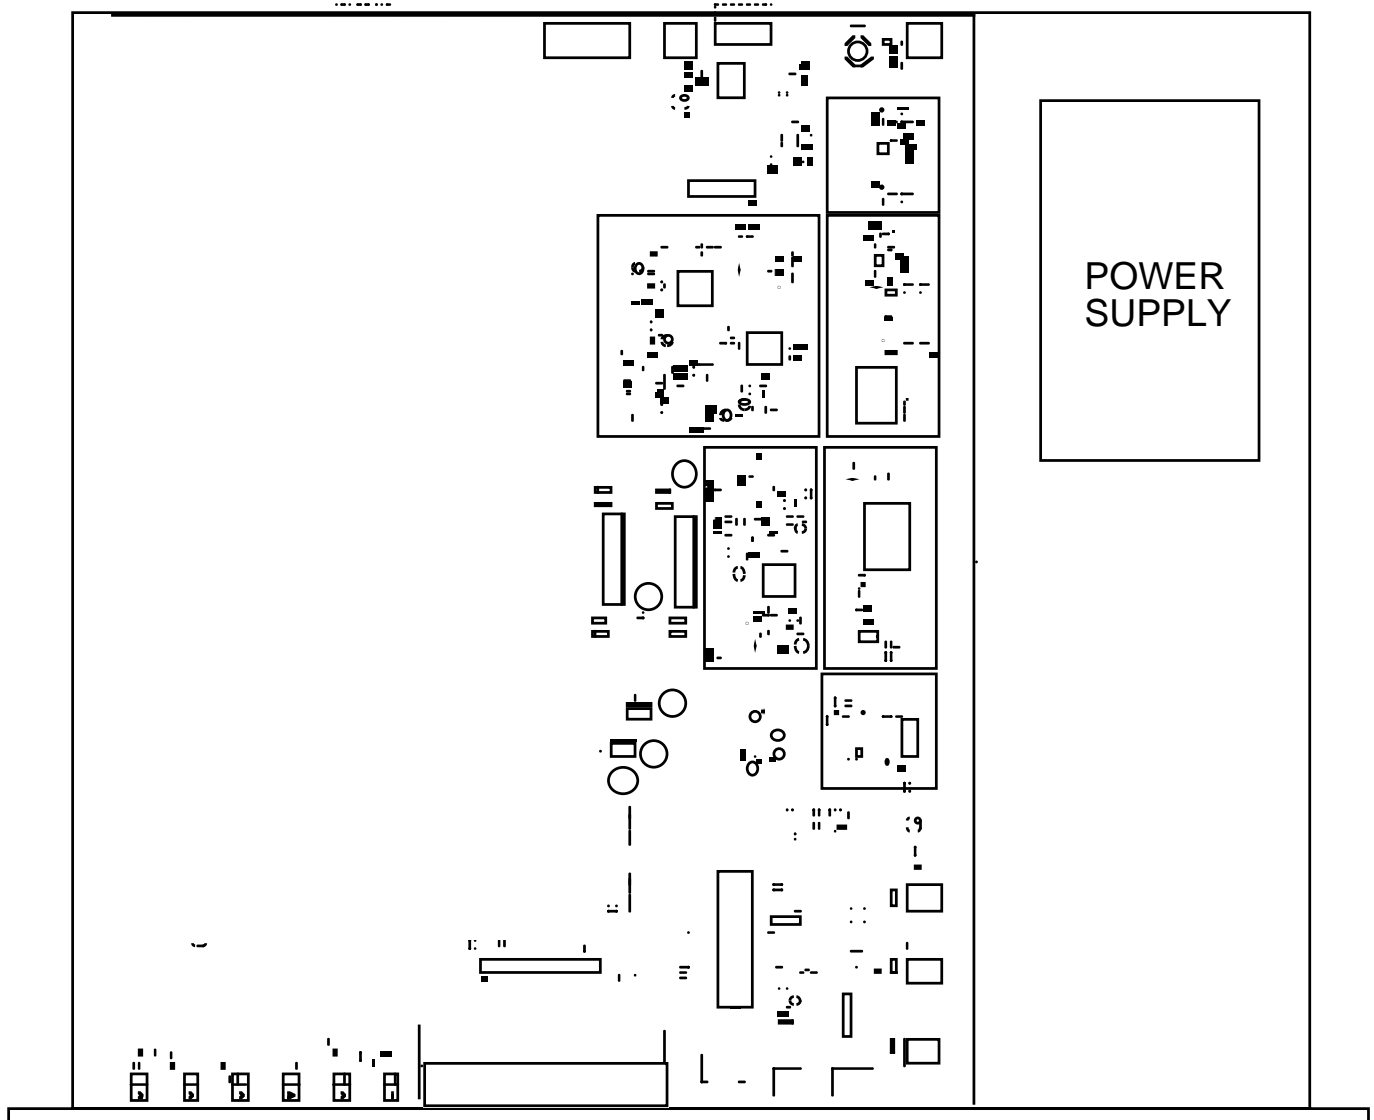

FIGURE 2.1 2083-1320 Mechanical Assembly
2.1 Mechanical - The 2083-1320 consists of one RF/Controller PCB housed in a 1 RU (1 3/4 inch high) by 16 inch deep chassis. A switching, ± 12 , +24, +5 VDC power supply provides power for the assemblies. The 2083-1320 can be secured to a rack using the 4 holes on the front panel. Figure 2.1 shows how the 2083-1320 is assembled.